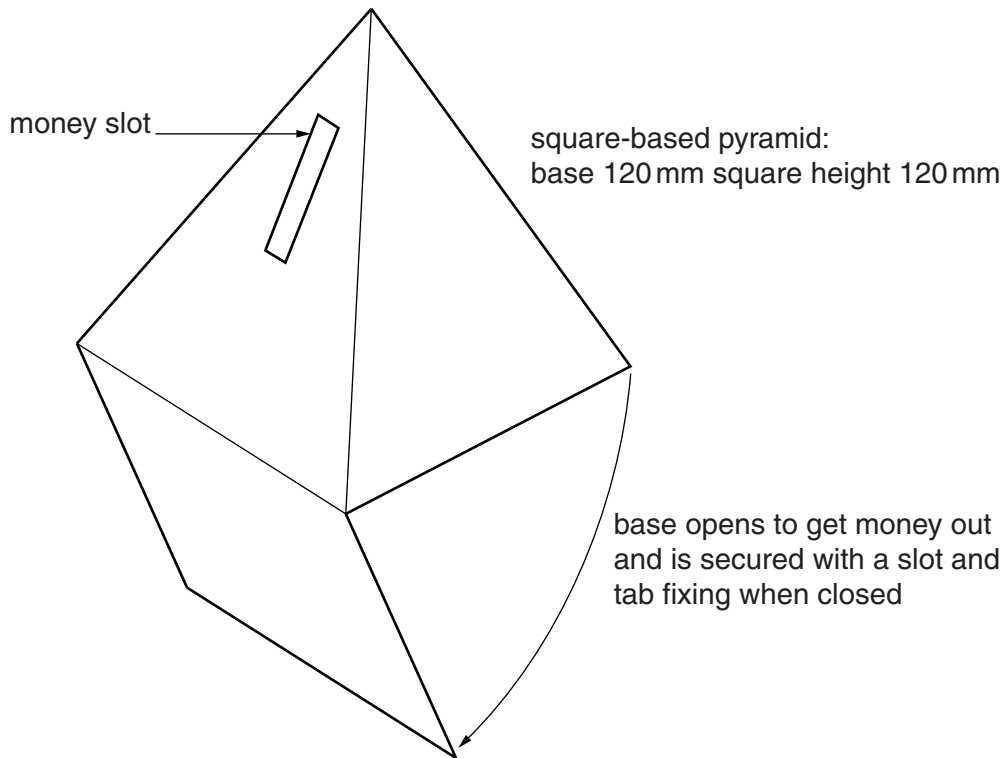

Fig. 2
- 2 Fig. 2 shows a card money box which is to be made in a school workshop.